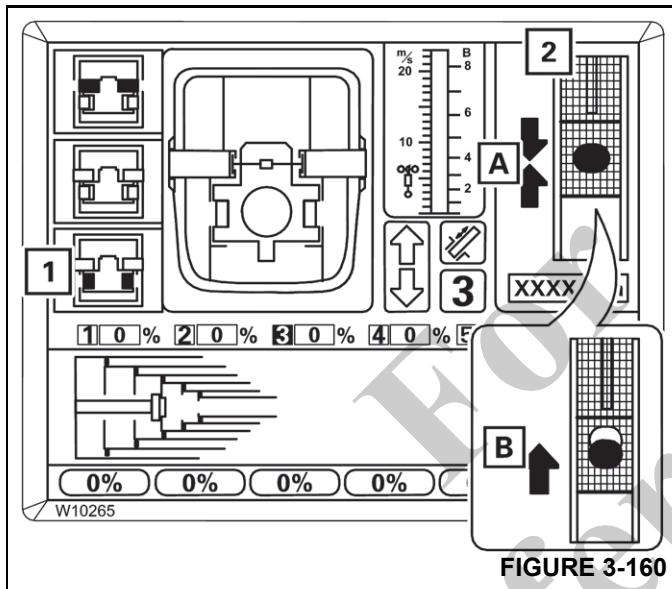

FIGURE 3-160
If the symbol (1) (Figure 3-160) is still flashing after approximately 10 seconds, this means that the locking pins are under load.